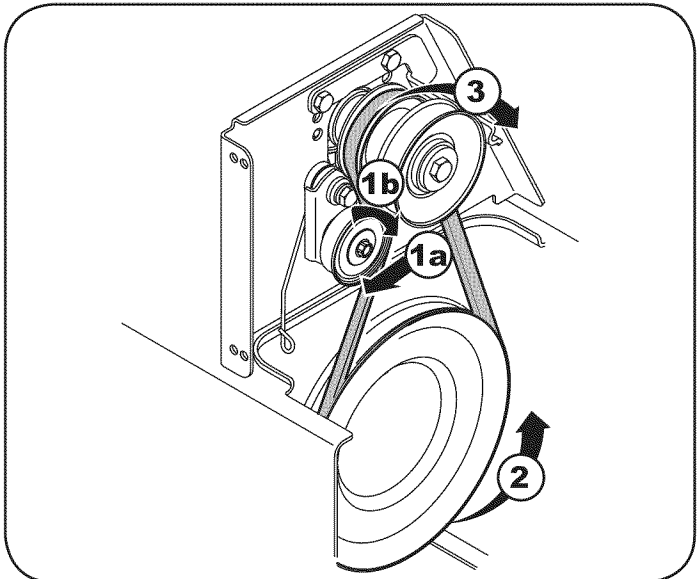

Figure 36
**NOTE:** If the pulley adapter was removed with the pulley, align the splines of the pulley adapter and auger input shaft, and push the pulley and adapter onto the input shaft. Refer to Figure 36.
- a. Pull the idler pulley away from the backside of the drive belt to relieve the tension. See Figure 36.